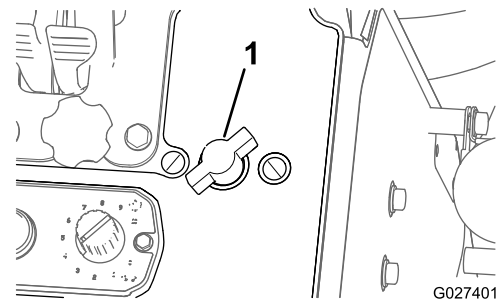

Figure 54
- To increase pump pressure to the wand, rotate the wand pressure control counterclockwise (Figure 54).
- To decrease pressure to the wand, rotate the control clockwise direction (Figure 54).
- To shut off pressure to the wand, rotate the wand pressure control clockwise until the valve for the control is closed (Figure 54).
- B. Rotate the sprayer wand pressure control clockwise to the Off position (Figure 54).